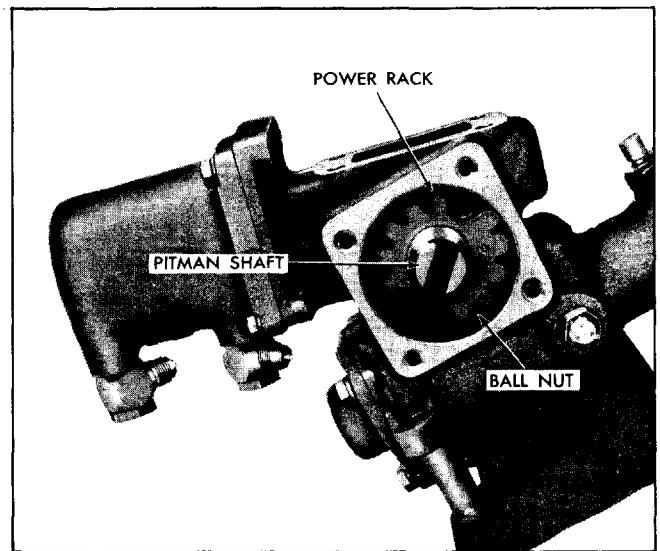

Fig. 9-49 Pitman Shaft Correctly Installed
5. Install pitman shaft in housing with tapered teeth contacting ball nut, engage first tooth of gear with first tooth of power rack and worm gear ball nut as shown in Fig. 9-49.